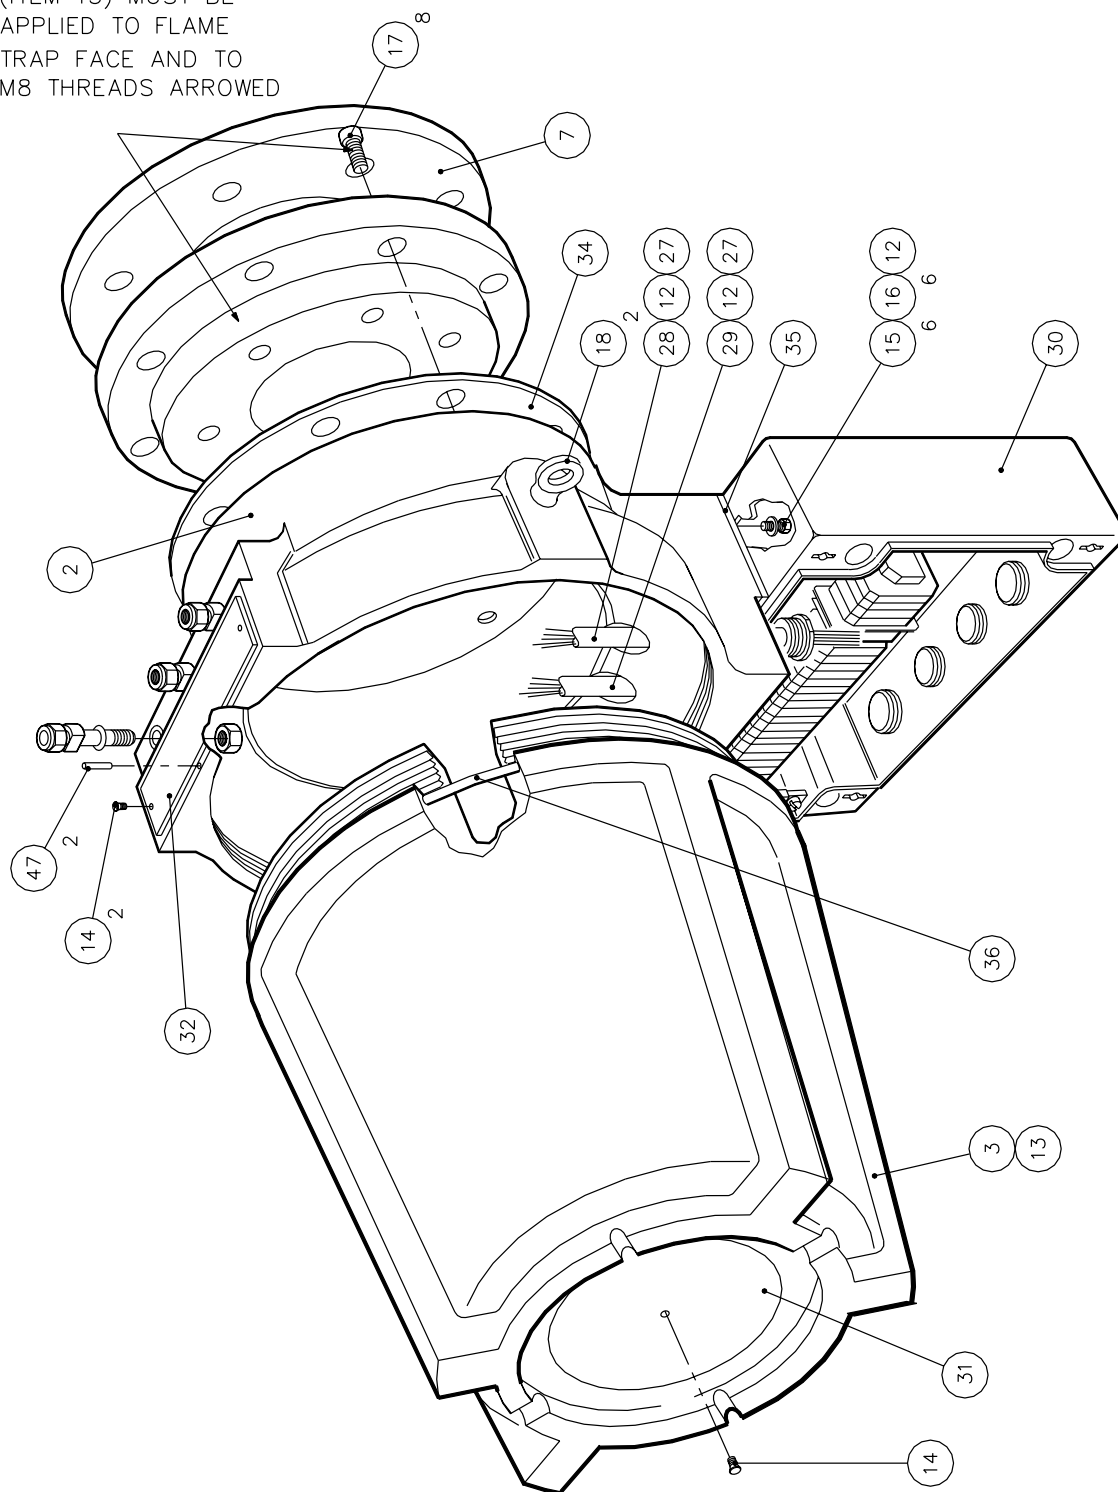

Figure 5.3 Exploded view - sensor head
5. Check that the aspirator air pressure is set to the correct value, as shown on the label below the circuit board in the sensor head terminal box, and that there is an air flow of approximately 1.5 litres/min. If not, remove and clean the aspirator jet, see figure 5.3.
This section covers removal and replacement of the major components in the sensor head. Refer to Figure 5.3 for identification and relationship of all parts.
Two types of 1/8 inch coupling nuts are used in the sensor head. One is 'Metric' which has a groove in the body. The other is 'Imperial' which has no groove. Ensure that the correct type is used by referring to Figure 5.3.